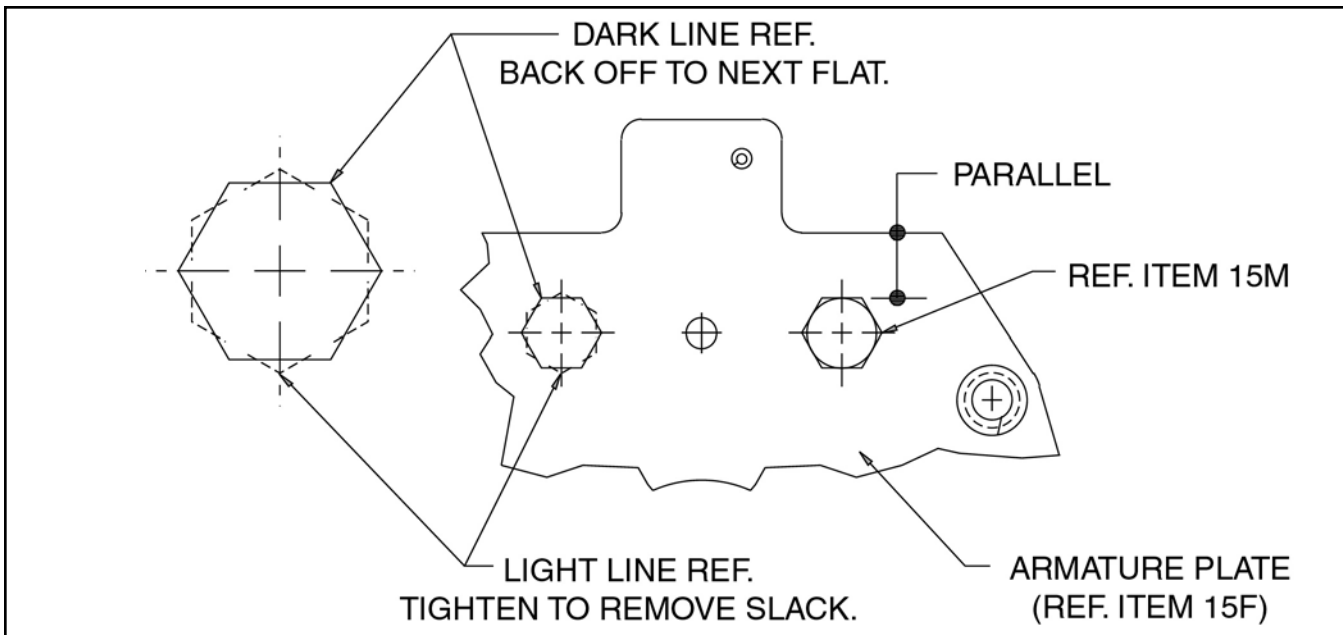

Figure 5
**NOTE:** Screws (15M) should be tightened to remove slack only. Then back off, counterclockwise on screw so the next flat on screw is parallel with the edge of the armature plate (15F). See Fig. 5.